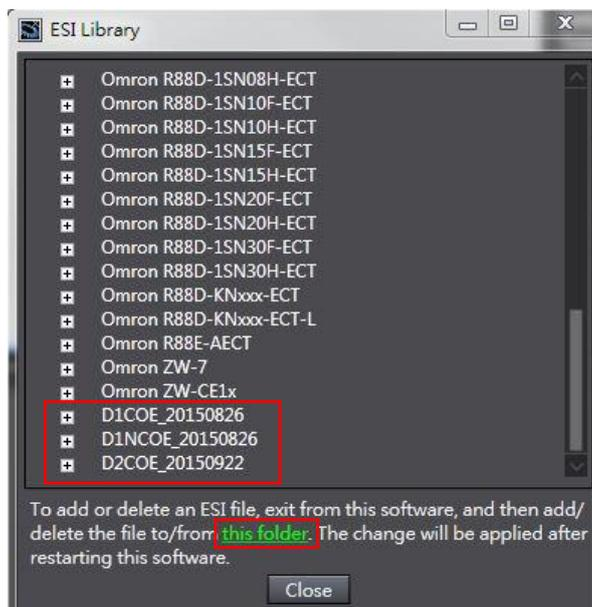

Fig. 5-36
- (3) The “ESI Library” window shows ESI files supported by Sysmac Studio, as given in Fig. 5-36. Check if there is the ESI file for HIWIN CoE drive or not.
- (4) Close Sysmac Studio and re-start it. Now, Sysmac Studio can support the least HIWIN ESI file.